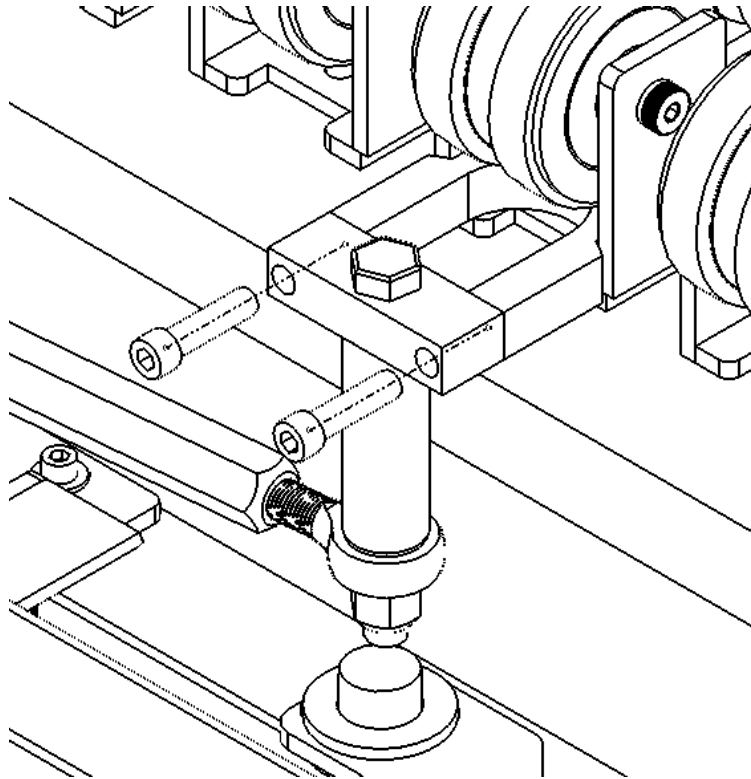

Figure 22: PWD divert linkage to PWD wheel attachment
5. Remove the (2) 1/4"-20 shoulder head cap screws that attaches the divert linkage to the PWD wheel. Refer to Figure 22 that illustrates the hardware that needs to be removed. The torque requirement for 1/4"-20 shoulder head cap screws is 101 in-lbs.